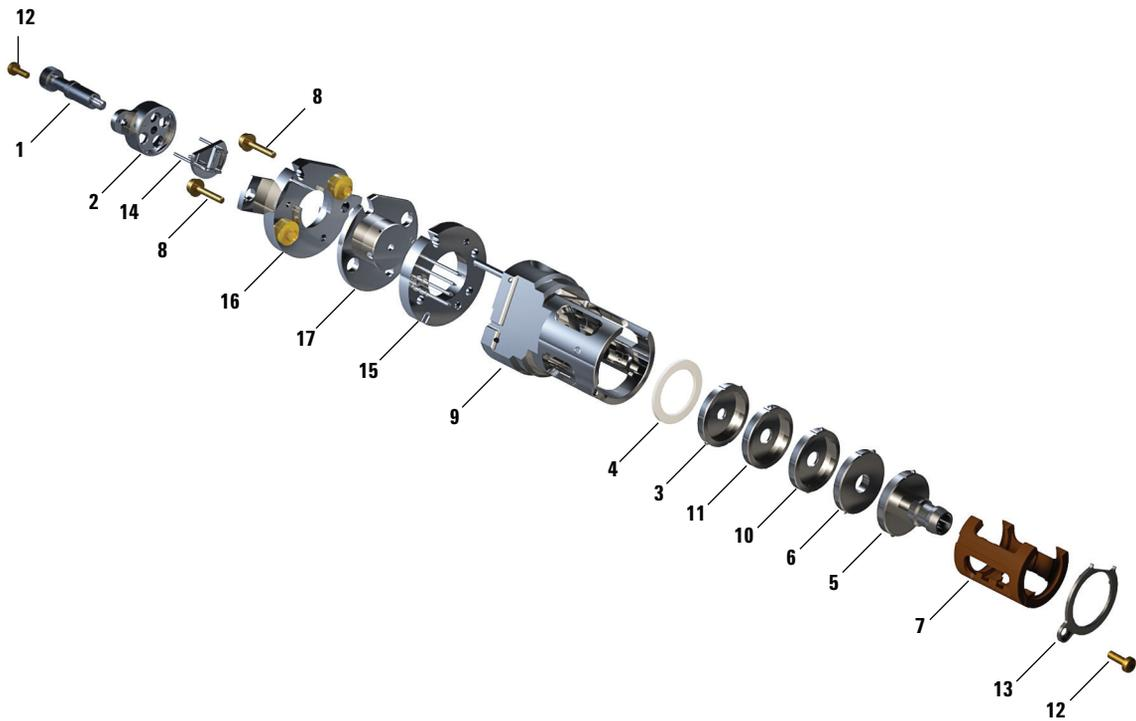

Figure 57. EI HES
This section lists the EI HES parts. (See **Table 17** and **Figure 57** on page 201.)
**Table 17** Parts list for EI HES (Figure 57 on page 201)